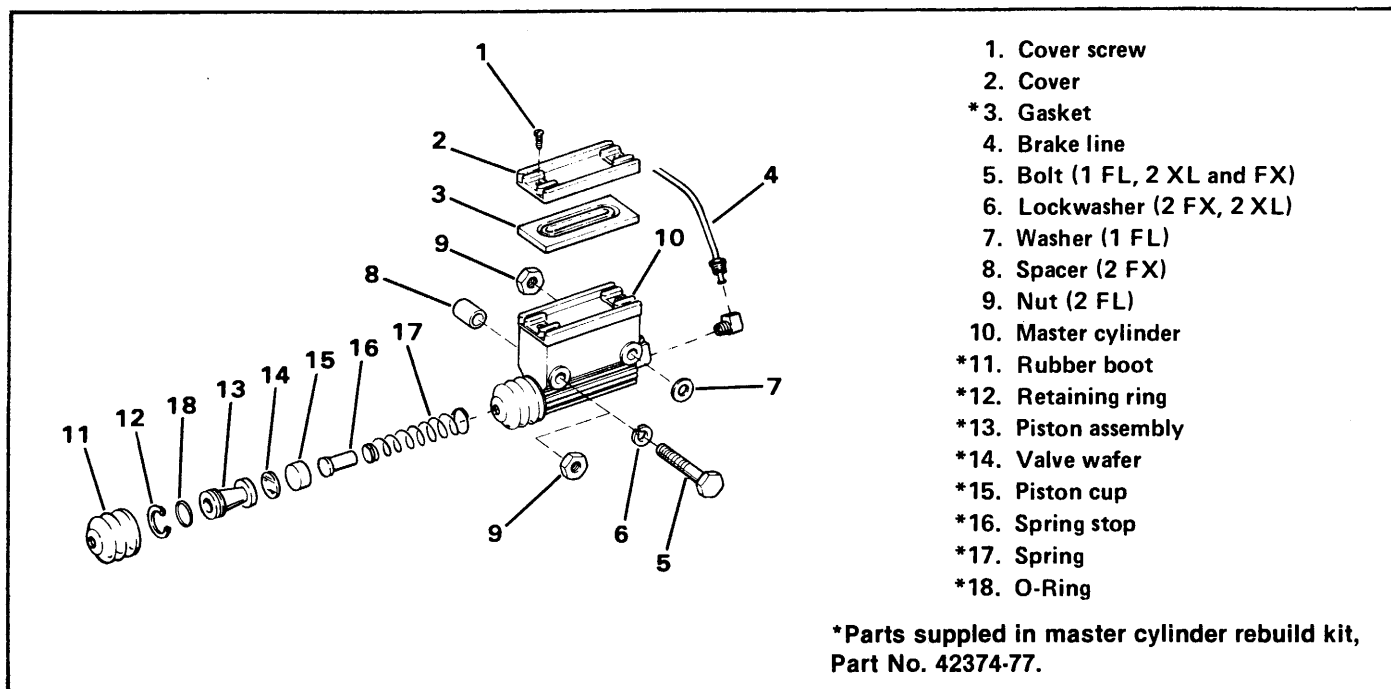

Figure 1. Rear Brake Master Cylinder
2. See Figure 1. Remove the rubber boot (11) from the master cylinder (10).
(See Figure 1.) To replace internal parts of master cylinder, it must be removed from the motorcycle as follows: